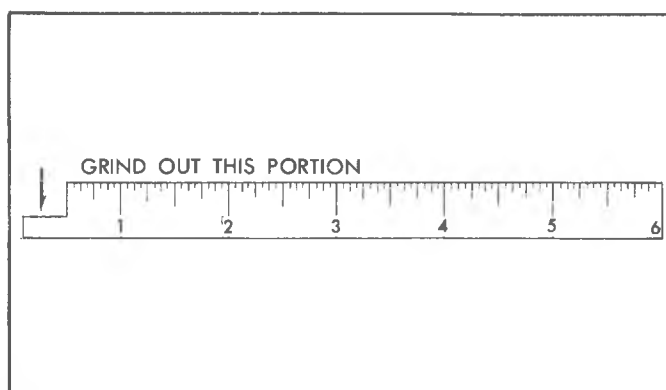

Fig. 28—Cutaway Scale
5. Check the installed height of the valve springs, using a narrow thin scale. A cutaway scale will help (fig. 28). Measure from the top of the shim or the